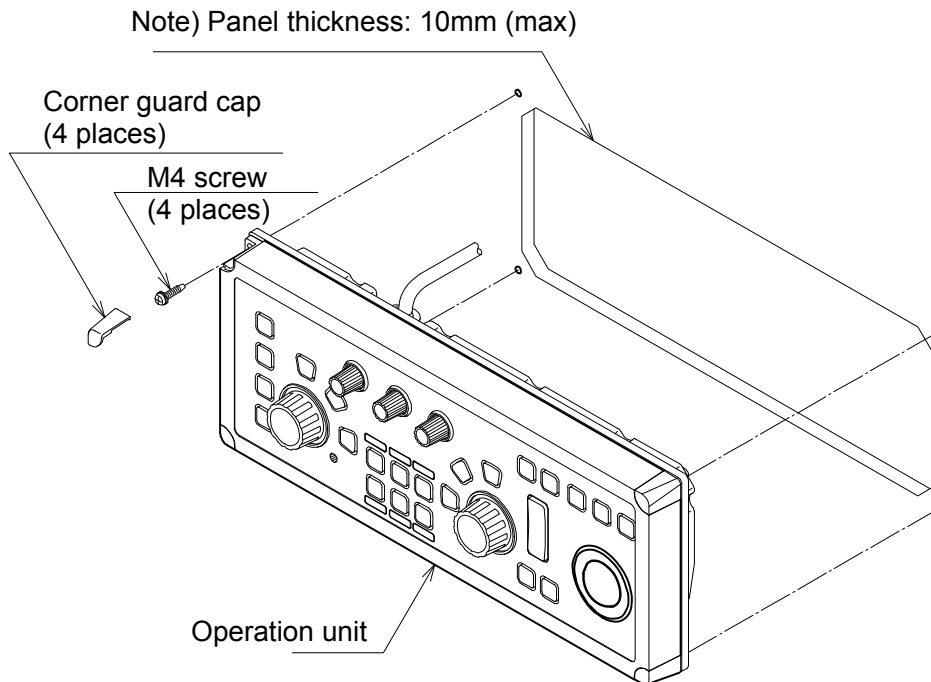

Figure 2.14 Flush Mounting the Operation unit
- (1) Remove corner guard caps of four corners of the Operation unit.
- (2) Insert the Operation unit and its connecting cable into the opening and adjust the Operation unit parallel to the mounting face (Figure 2.14).
- (3) Secure the Operation unit to the panel with 4 mm tapping screw (4 places).
- (4) Return corner guard caps removed in (1) to the original places.